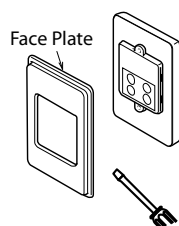

Fig.3
4. Carefully remove the face plate from the controller using the screwdriver (Fig. 3).